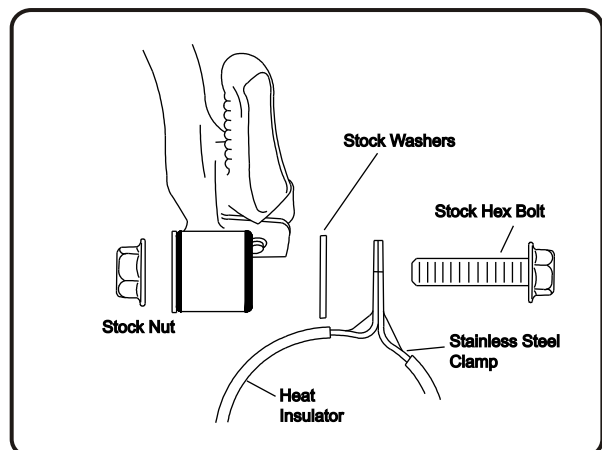

Fig. 3
(Note direction of clamp in Fig. 3)
- 5 Mount clamp to stock muffler bracket using stock bolt, washers and nut. (See Fig. 3) Hand tighten bolt only at this point.